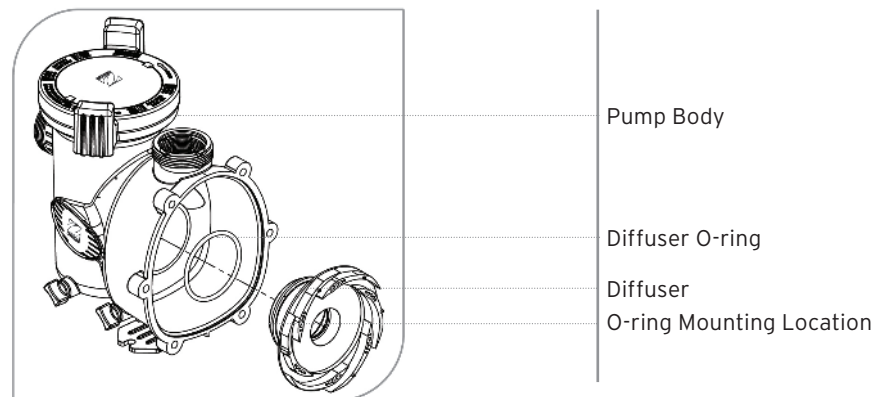

Figure 6. Pump Body and Diffuser Exploded View
4. Replace the diffuser over the impeller, using care to insert alignment pins into the correct holes. The alignment pins in the diffuser allow the diffuser to be inserted only one (1) way. Align the arrow on the backplate with the arrows on the diffuser.
5. Replace the two (2) small Phillips-head screws. Tighten the screws to draw the diffuser against the motor backplate.
6. Make sure the diffuser o-ring, o-ring groove, and o-ring seal area are clean and free of debris, which could cause a leak. If you removed the diffuser o-ring during disassembly, re-install it on the diffuser, as shown in Figure 6. If grease is used to retain the diffuser o-ring, it **must be silicone based. Do not use petroleum-based grease.** It will destroy the o-ring.